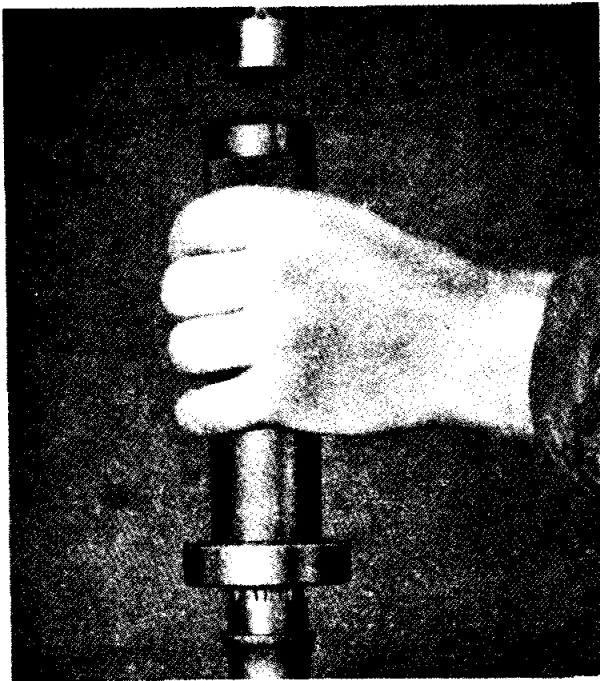

Fig. 9 Replacing wheel bearings utilising Churchill Tool No. M92.
- (b) Replacement of the hub bearing is illustrated in Fig. 9, using Churchill Tool No. M92.